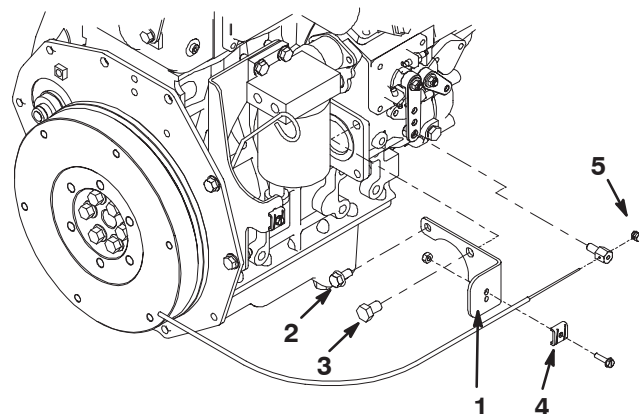

Figure 3
5. Mount the new throttle cable bracket to the engine with a M8 x 1-1/4 flange head capscrew and a M10 x 1-1/2 capscrew. Locate the bracket as shown in figure 3.
9. Secure the cable to the cable support bracket with the cable clamp and screw previously removed (Fig. 3).
10. Loosely attach the cable to the swivel on the injection pump lever arm with the new throttle cable connector (Fig. 3).